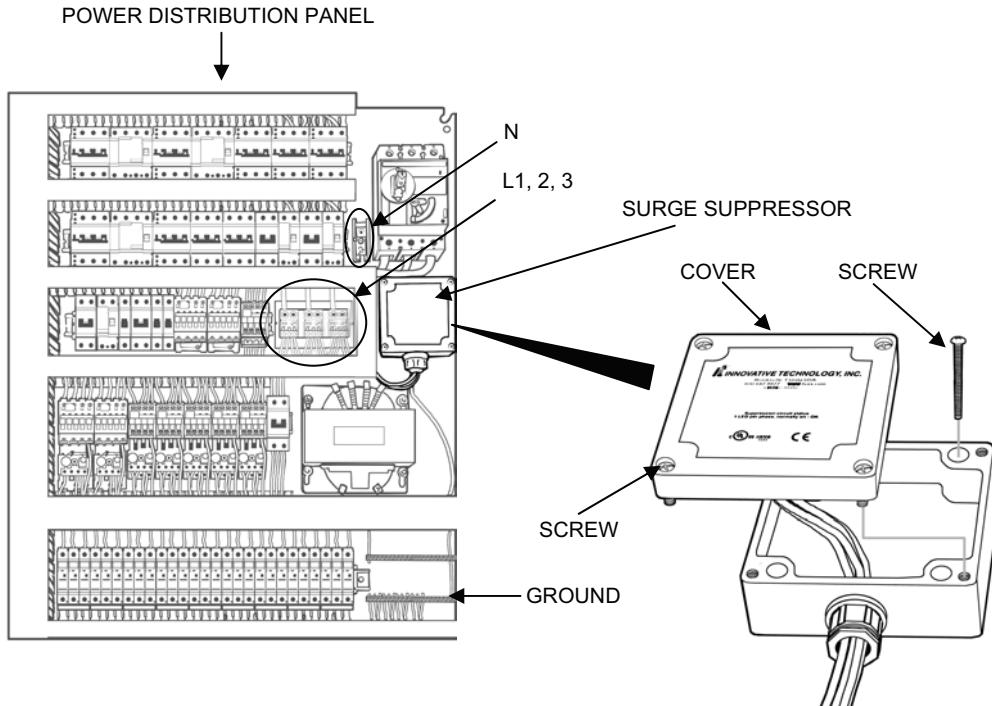

Figure 9. Surge Suppressor Replacement.
1. Remove the surge suppressor as follows (see Figure 9):